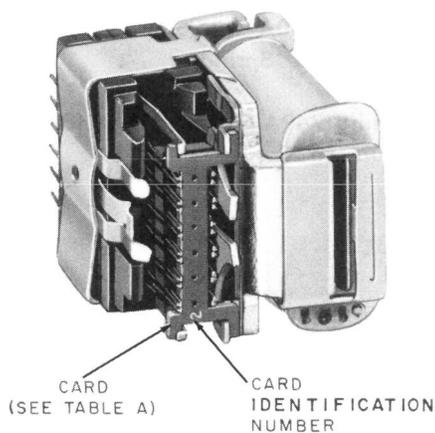

Fig. 3—6-Position Relay—Cover Removed
*The identification number is stamped and located in the lower center of each card when the card is properly mounted on the relay, as shown in Fig. 3. The number stamped on the upper center of the card is the molding cavity identification number and is used for manufacturing purposes only. Order the replacement card by the piece-part number corresponding to the identification number on the card to be replaced.
- (4) To mount an actuating card, first make sure the 750A insulator and 749A spring holder are positioned as covered in (2) and (3), respectively. Then, hold the card with the number designation positioned in accordance with Fig. 3 or 4 and insert the card between the insulator and twin break springs as follows: Using the edge of the card associated with the twin make springs, press the card against the insulator, adjacent to the twin make contacts. This will increase the gap between the insulator and twin break springs and provide space for inserting the card. Carefully place the card in position, taking care to avoid damage to the spring contacts. Make sure the notches of the armature clamp plate engage the associated tabs on the card and the projections